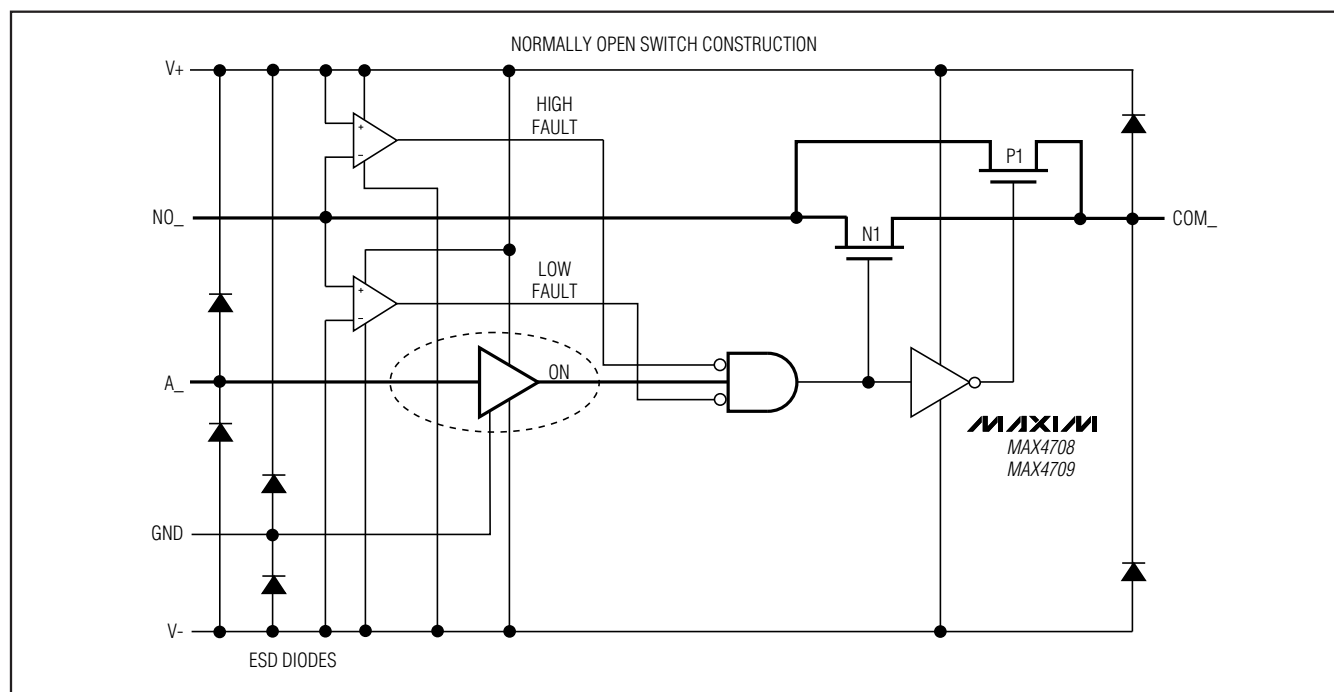

Figure 1. Functional Diagram
Figure 1 shows the internal construction of a single normally open (NO) switch, with the analog signal paths shown in bold. The parallel combination of N-channel FET N1 and P-channel FET P1 form the analog switch. During normal operation, these FETs are driven on and off simultaneously according to the control voltages on A\_. During a fault condition, both FETs turn off.
on NO\_ ranges between  $V_+$  and  $V_-$ , the multiplexer operates normally, with FETs N1 and P1 turning on and off in response to the control signals on A\_ (Figure 1). When the switch state is on, the parallel combination of N1 and P1 forms a low-value resistor between NO\_ and COM\_ so that signals pass equally well in either direction. When the switch state is off, both NO\_ and COM\_ are high-impedance inputs.